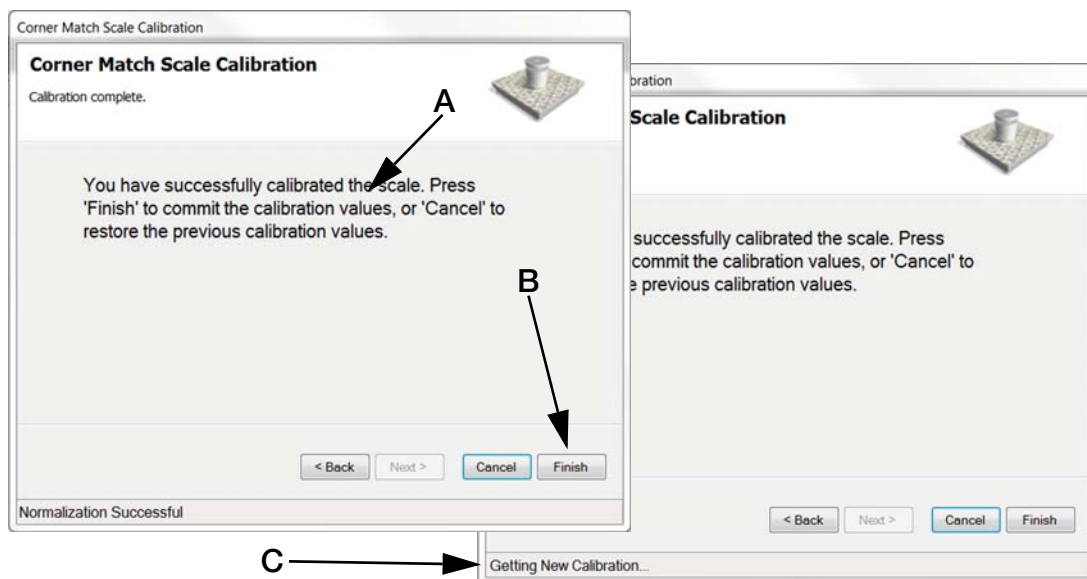

Figure 4-14. Finish Calibration
11. A message that you have successfully calibrated the scale will appear (Figure 4-14 A) then press **Finish** (Figure 4-14 B).
A message appears in the bottom of the frame "Getting New Calibration" (Figure 4-14 C). When done the pop up box will disappear and calibration is complete.